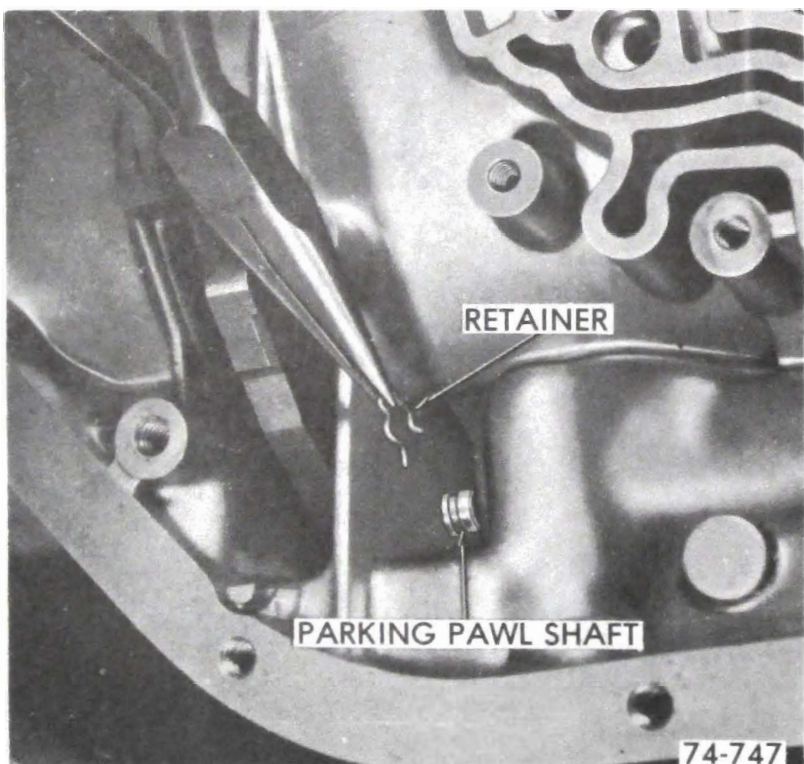

Figure 76-78
h. Remove parking pawl shaft retainer. See Figure 76-78.